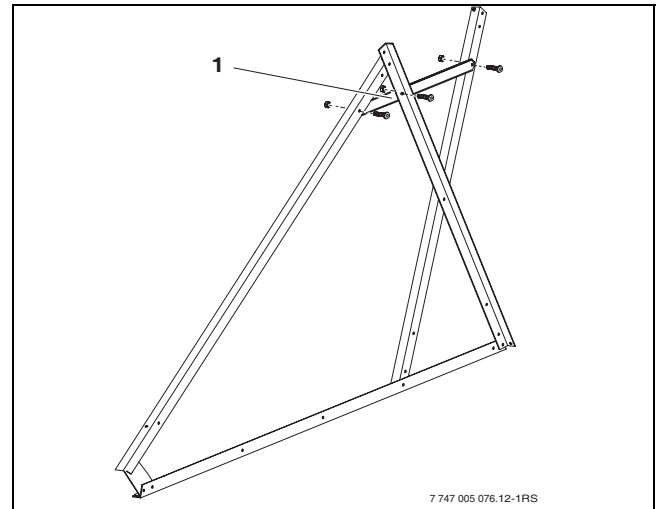

Fig. 12 Inserting the cross brace
- ▶ Secure the cross brace (Fig. 12, [1]) to the two cylinder support rails and the collector support rail.